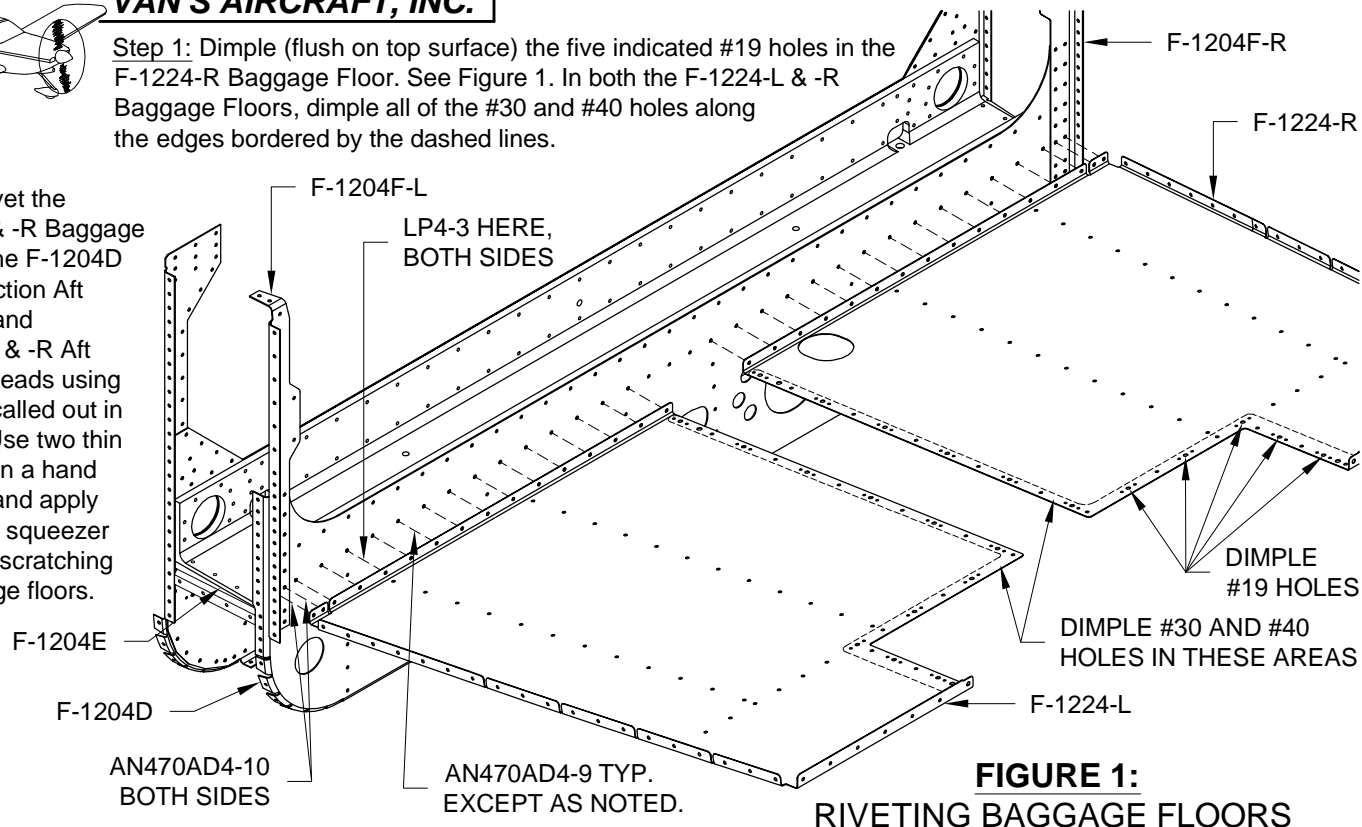

FIGURE 1: RIVETING BAGGAGE FLOORS
Step 1: Dimple (flush on top surface) the five indicated #19 holes in the F-1224-R Baggage Floor. See Figure 1. In both the F-1224-L & -R Baggage Floors, dimple all of the #30 and #40 holes along the edges bordered by the dashed lines.
Step 2: Rivet the F-1224-L & -R Baggage Floors to the F-1204D Center Section Aft Bulkhead and F-1204F-L & -R Aft Side Bulkheads using the rivets called out in Figure 1. Use two thin flush sets in a hand squeezer and apply tape to the squeezer to prevent scratching the baggage floors.